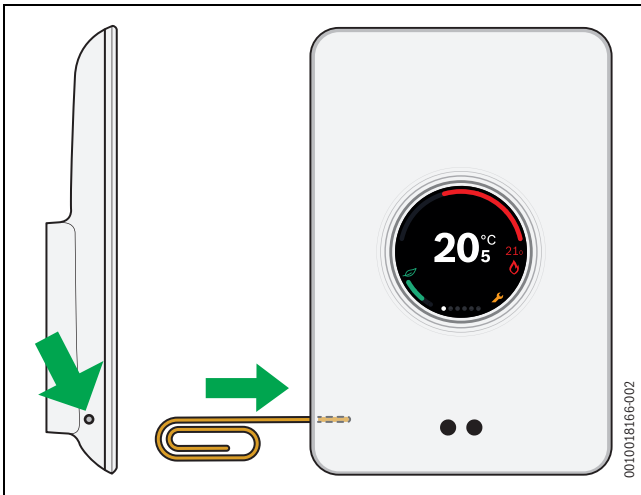

Fig. 20 Hard reset
- ▶ Press the reset button (→ fig. 20) for a few seconds. **Caution!** All personal settings (including consumption data) will be deleted and the WLAN connection will have to be reset (→ section 5.4).